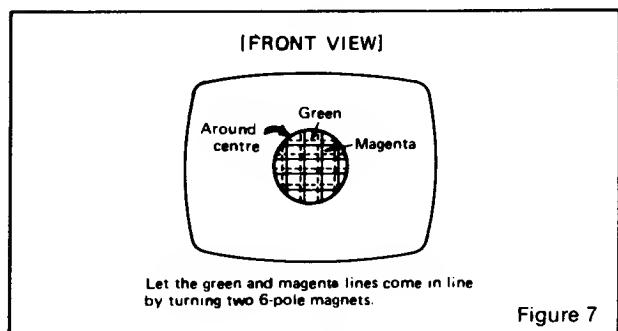

Figure 7
2.6 Turn on green input to obtain magenta (red/blue) and green crosshatch lines. Rotate the 6-pole (rear) pair of magnets as a unit to minimize separation of the magenta and green lines (figure 7). Vary angle between the two tabs and further rotate as a unit to finalize.
2. A pair of 4-Pole Convergence Magnets are provided and adjusted to converge the blue and red beams. When the Pole opens to the left and right 45° symmetrically, the magnetic field maximizes. Red and blue beams move to the left and right oppositely (See Fig. 7-a and 7-b). Variation of the angle between the tabs adjusts the convergence of red and blue vertical lines.